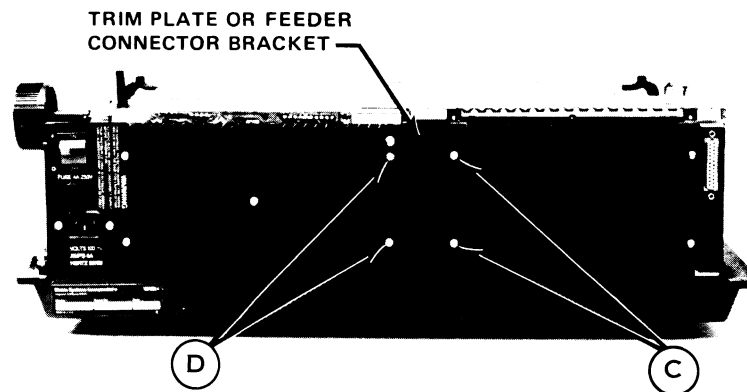

Figure 4-8. REAR PANEL TRIM PLATE
- 5) Referring to Figure 4-8, remove the trim plate from the center rear panel of the machine. To do this, loosen the four screws (C and D) that secure one side of the plate to the SCE heat sink, and the other side to the power supply heat sink. Slide the trim plate up out of the machine.